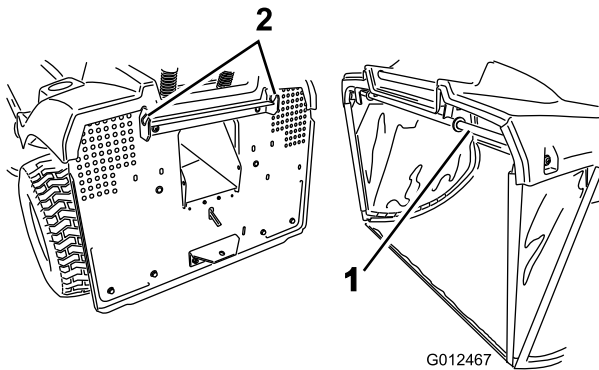

Figure 38
1. Hang the top support bar onto the 2 notches in the support bracket at the rear of the machine (Figure 38).